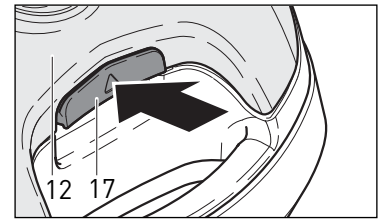
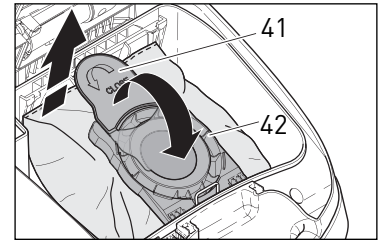

Figure 20
Figure 21
Changing the Filter Bag - Figures 20, 21 & 22
To change the filter bag (40), lift the filter bag release catch (17, figure 20) then lift open the filter bag cover (12). Seal the used filter bag with the sealing cap (41). Tilt the green sealing plate collar up (42, figure 21) and lift the bag out. Slide the front of the sealing plate (42) of a new bag vertically into the bag holder (43, figure 22). Line up the sealing plate so that the U-shaped metal spring (44) is positioned in the slot (44) of the collar and tilt it back into place. Close the cover, making sure it snaps shut completely. The cover will not close if the bag is inserted improperly. Do not re-use the filter bags. **Note:** the nature of the contents of the filter bag will affect the point at which it needs changing. Fine dust may require an earlier change even though the bag is not full. Fluff or hair allows air to pass through easily, so the filter bag may overfill before the "bag full" indicator turns orange.
The pre-motor filter (46) needs to be changed when it becomes extremely dirty or clogged with dust, or after approximately 10 to 20 filter bags have been used. To change the pre-motor filter, lift the filter bag release catch (17, figure 20), lift open the filter bag cover (12) and remove the filter bag. Grasp the tab at the bottom of the filter (47, figure 23) and pull the filter out and up. When the filter is horizontal, lift it out of the holder (48). Insert the new filter into the holder horizontally (48) then swing it downward until the the tab (47) locks into place. Replace the filter bag and the filter bag cover.